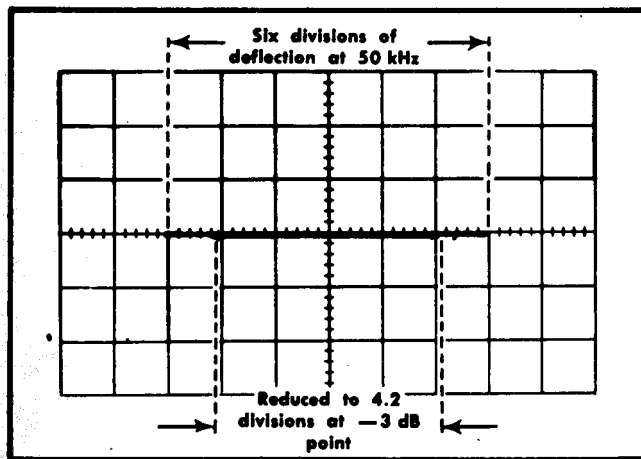

Fig. 5-26. Typical CRT display when checking external horizontal bandwidth (double exposure).
- c. Without changing the output amplitude, increase the output frequency of the generator until the horizontal deflection is reduced to 4.2 divisions (-3 dB point; see Fig. 5-26).